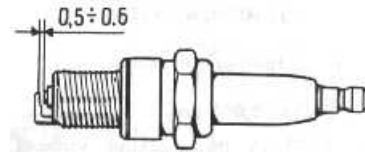

Fig 43. Checking spark plug gap
2. Check the spark plug gap with a round wire feeler gauge. The gap should be 0.5-0.6 mm (Fig. 43); the gap must be adjusted only by bending the side electrode.